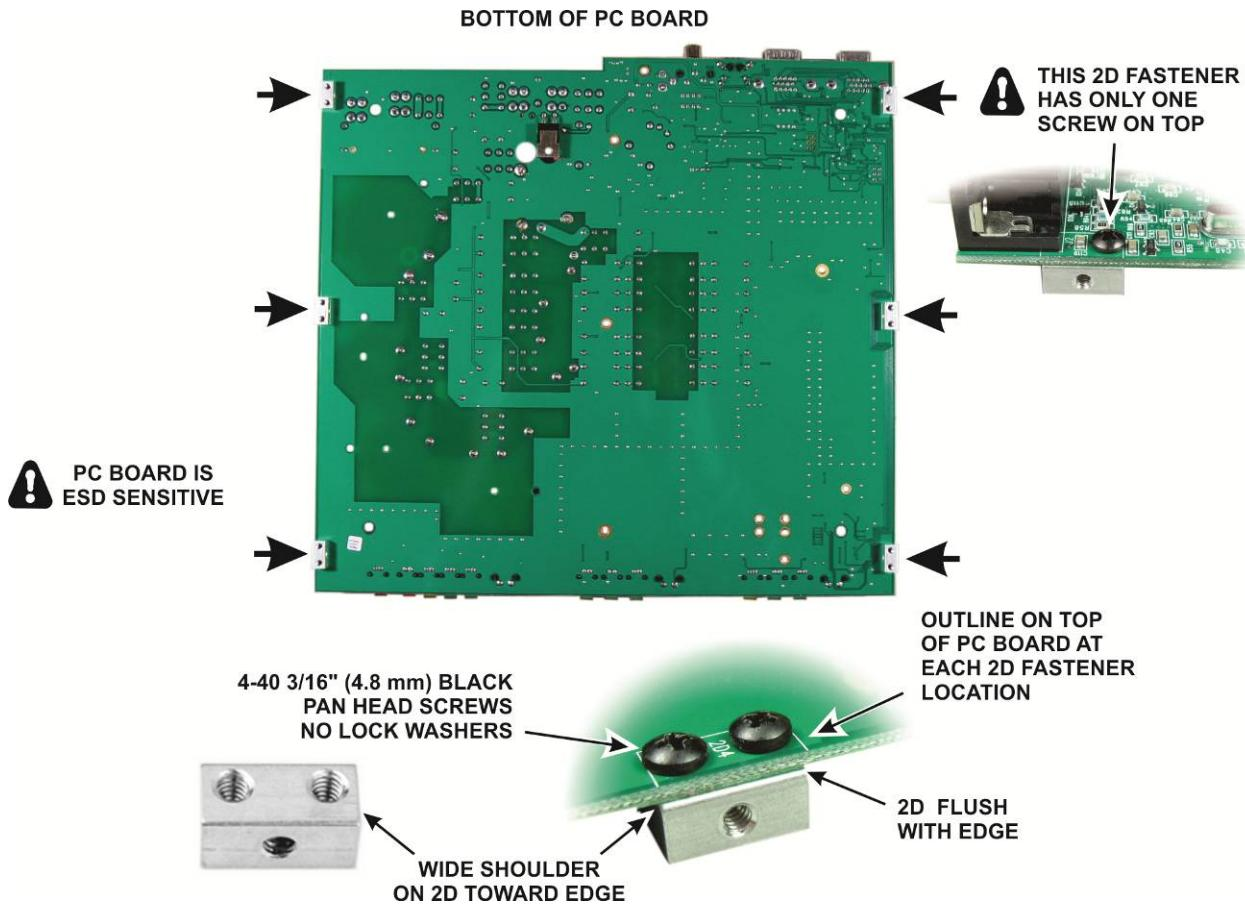

Figure 10. Installing the 2D Fasteners.
- Taking ESD precautions remove the printed circuit board from its ESD-safe envelope and install six 2-D fasteners as shown in Figure 10. Be careful not to disturb any of the inductors on the top side, especially the air wound coils, or the position of the resistor mounted on the bottom.
- The 11 screws along the sides of the pc board (Figure 10, page 35).